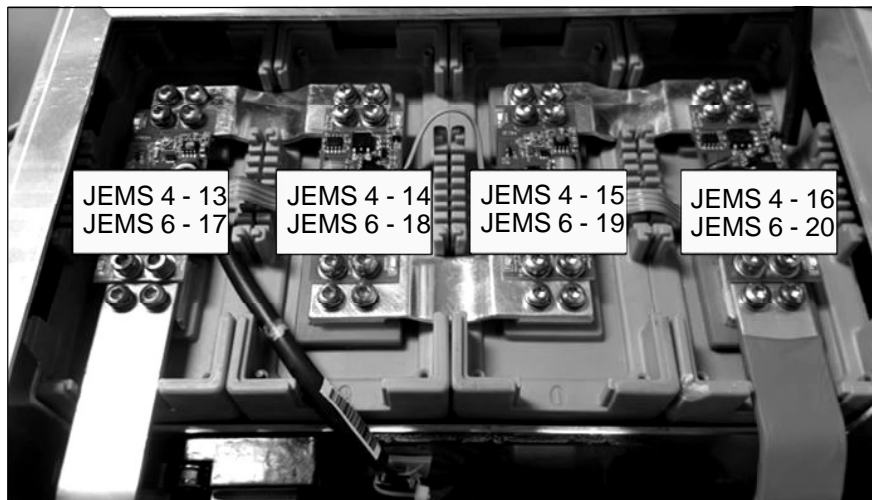

Figure 14 — PM100 Battery Cell Numbers
- JEMS 4 with an auxiliary battery module displays the 4 additional cell voltages as cells 13-16 (refer to Figure 14).
- JEMS 6 with an auxiliary battery module displays the 4 additional cell voltages as cells 17-20 (refer to Figure 14).